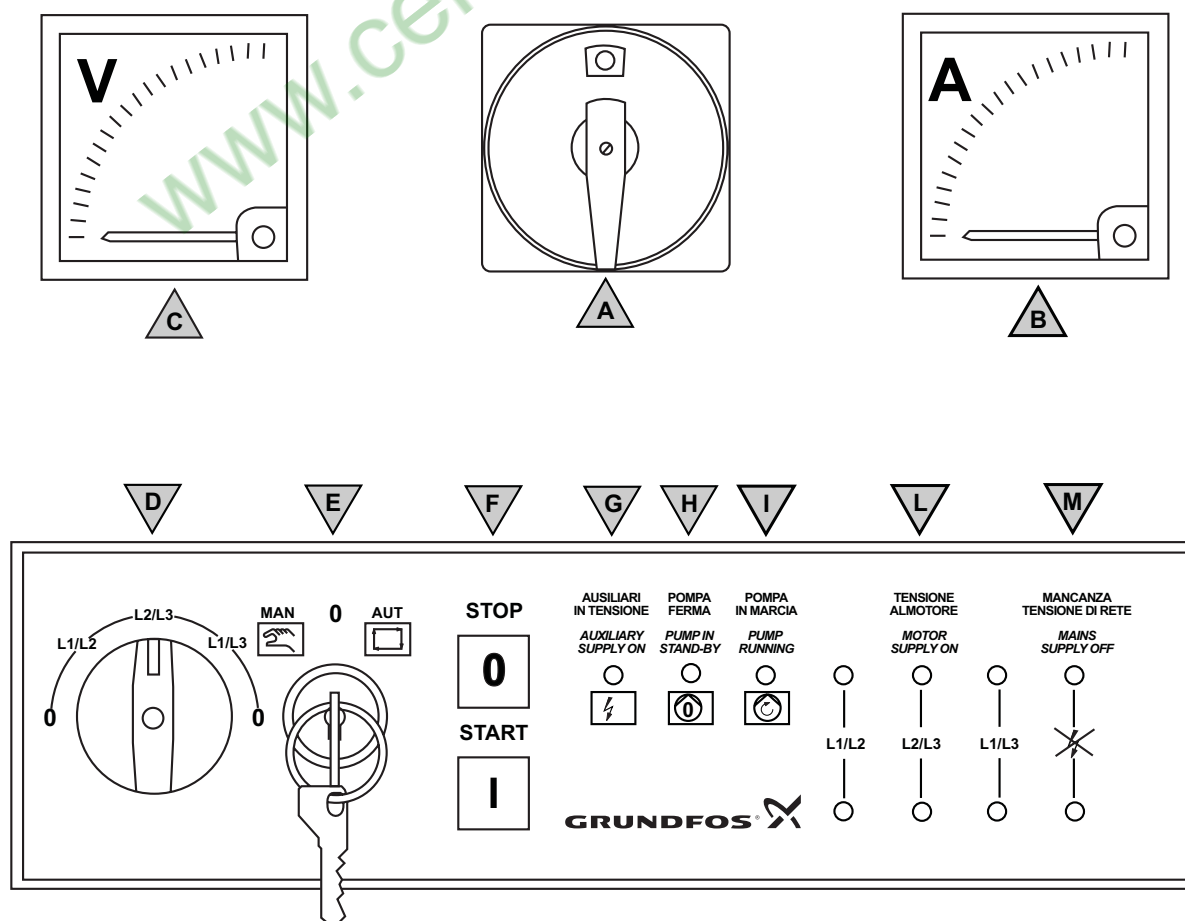

Fig. 6 Front door of control panel of duty pump
The duty pumps and the jockey pump are controlled via separate control panels allowing easy reading of gauges and signals from their front doors. The starting method for motors with rated power up to and including 7.5 kW is direct-on-line (DOL); in order to avoid line overload, stress on rotating parts and wear of system components the starting method is star-delta (SD) for motors with power ratings from 11 kW and upwards. Other starting methods, such as DOL instead of SD, are available as options. The table below lists the components and functions available in the control panels. Ref. refers to Fig. 6 showing the front door of a control panel of a duty pump which is designed in compliance with UNI 9490 requirements.